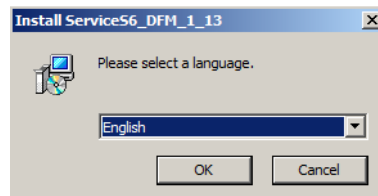

Figure 27 — Installer language selection
2) Select installer language from the drop-down list (see figure 27).